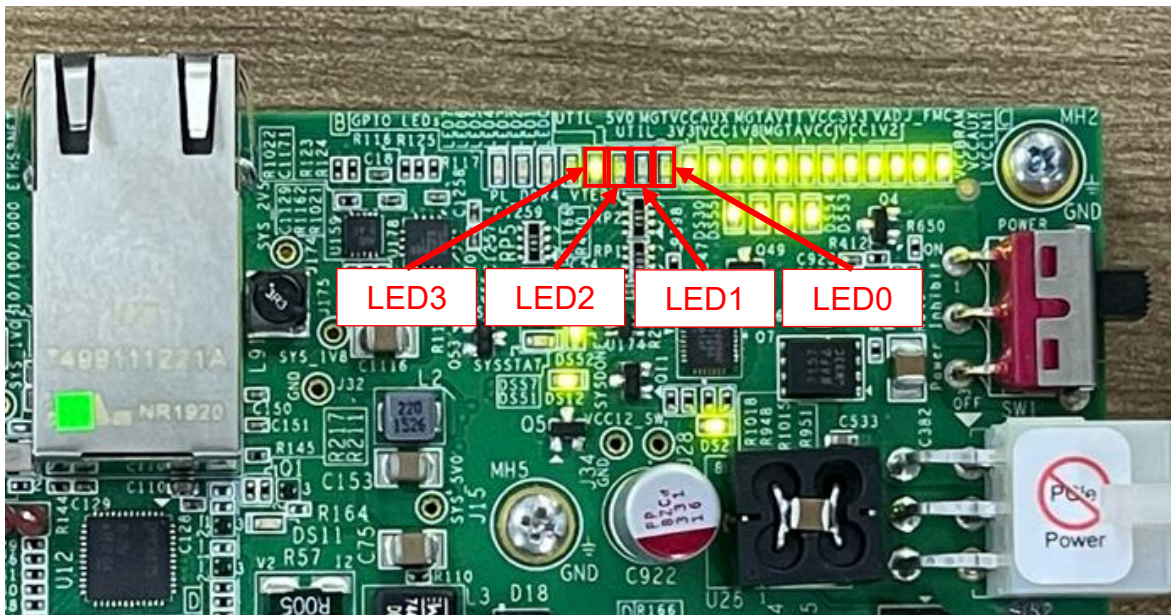

Figure 3-4 LED[3:0] status on board
- 6) When configuration is completed, user can check status LEDs on board as Figure 3-4.